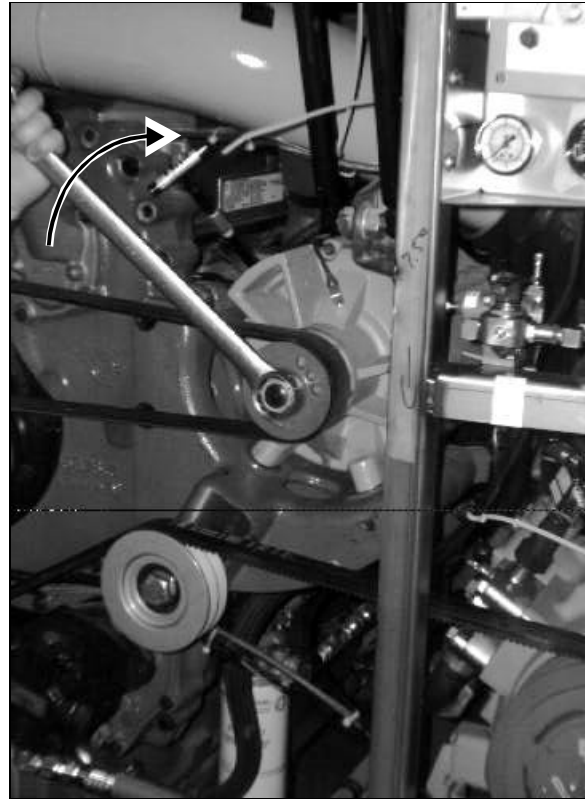

FIGURE 6: ENGINE COMPARTMENT
14. Remove the access plug from the flywheel housing on the R.H. side under the starter. From access plug, remove the 12 converter-to-flexible plate attaching screws. Rotate clockwise the alternator shaft to gain access to the attaching screws (Fig. 6).
1. With the access plug removed, align one of the 12 attaching screw holes in the flexible plate with the access opening, on the R.H. side under the starter. See figure 6 for attaching screws alignment.